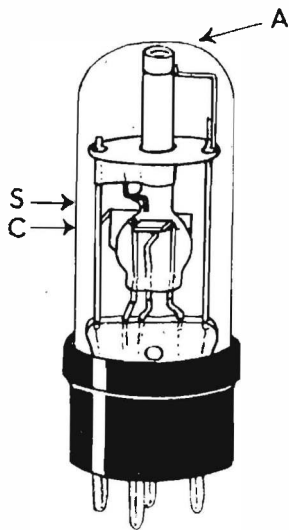

Fig. 2. Assembly of the newer-type lamp, type GMC6
linearity. Also, because of the rather close proximity of the hot cathode to the glass viewing window at the top end of the MAC4 it was found that the glass tended to become slightly coated with evaporated barium from the cathode after several hundred hours' life. This effect has been completely eliminated on the GMC6 because the hot cathode is far removed from the viewing window. A drawing of the assembly of the GMC6 is given in Fig. 2. It consists of an indirectly heated oxide-coated cathode mounted in a bulb at the lower end of a straight glass tube of approximately 3mm diameter and 40mm long. There is a striker electrode (S) mounted just above the cathode (C) and the anode (A) consists of an inverted nickel cup having a central aperture of 3mm diameter. This inverted nickel cup is attached to the upper end of the glass tube and is situated at a distance of 40mm from the cathode.